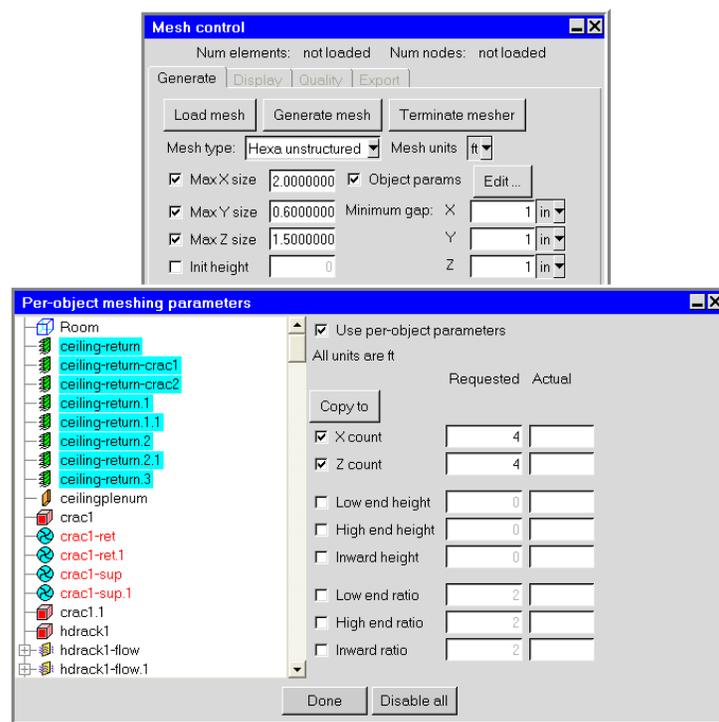

Figure 5.35: Ceiling Return Grilles Object-Specific Meshing Parameters
- iii. Hold down the <Ctrl> key and select the ceiling return grilles from the list as shown in Figure 5.35 and check the Use per-object parameters option.